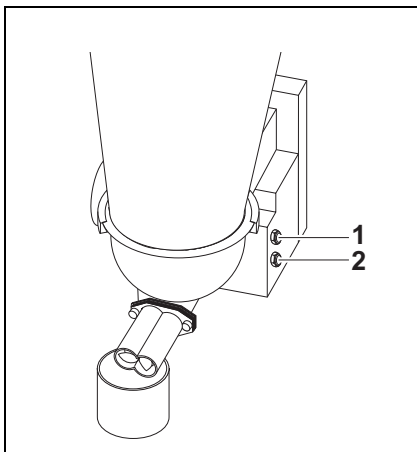

Fig. 8.5 Lubrication
- Check the oil level on the gear box through the inspection plug with the oil sight glass (see Fig. 8.5/1).